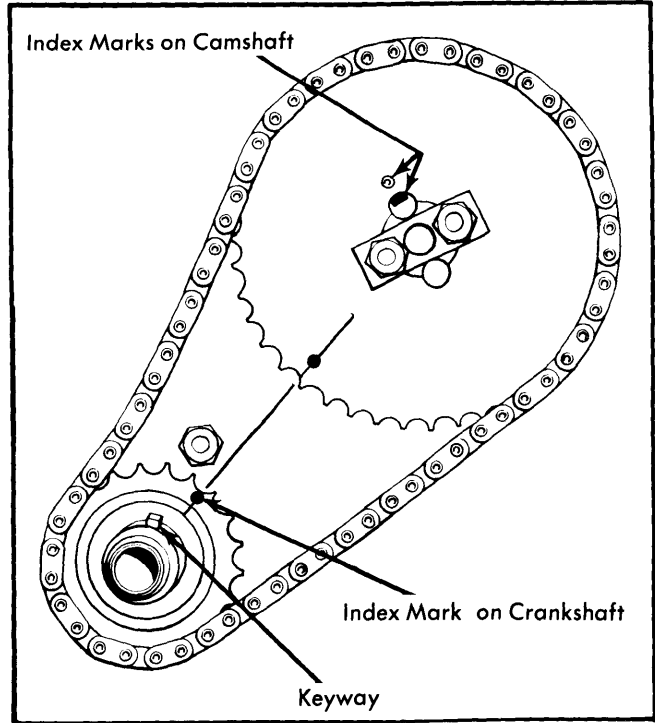

Fig. 7 Timing Chain Sprocket Alignment Marks
**Removal** - Disconnect battery. Remove cover. Remove oil seal sleeve and oil thrower. Rotate engine until No. 1 and No. 6 pistons are at TDC, No. 1 firing. Make sure timing marks shown in Fig. 7 are aligned. Remove camshaft bolts. Remove chain with sprockets. DO NOT allow sprockets to be moved with chain removed.